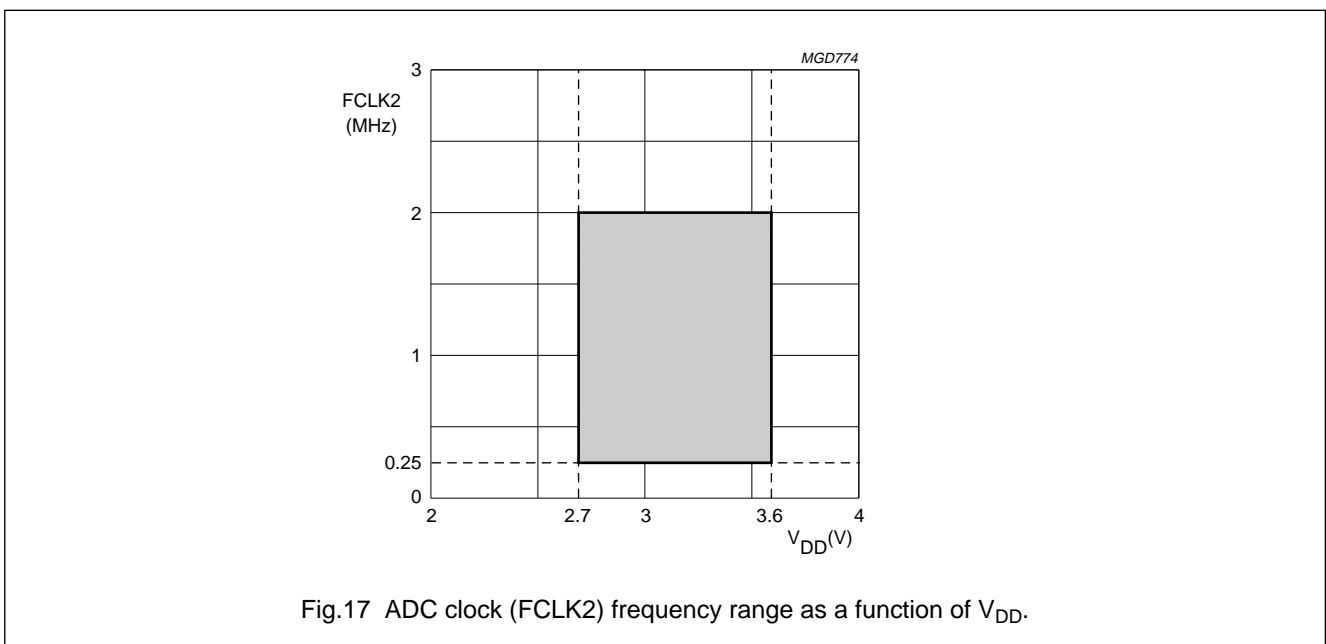

Fig.17 ADC clock (FCLK2) frequency range as a function of V_{DD}.
4. See Fig.17 for specific FCLK2 range as function of V_{DD} .